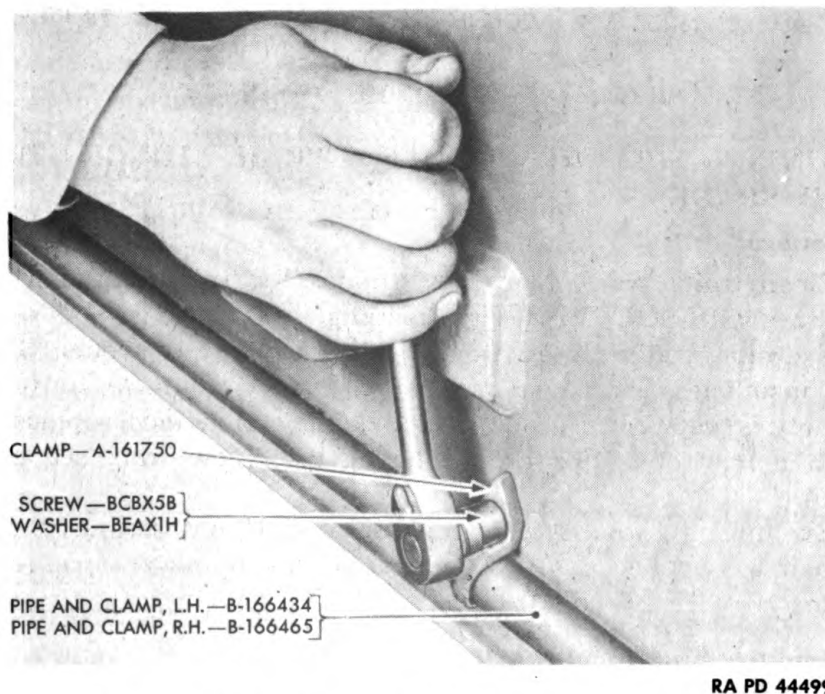

Figure 236—Removing Clamp from Trail
(3) Remove screws BCBX5B and washers BEAX1H from five clamps A161750 and remove clamps (fig. 236).